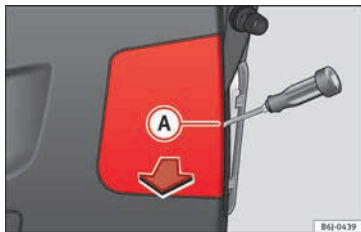

Fig. 113 Lights on the boot.
- Remove the lid with a flat screwdriver, placing it in notch **A** » Fig. 113.